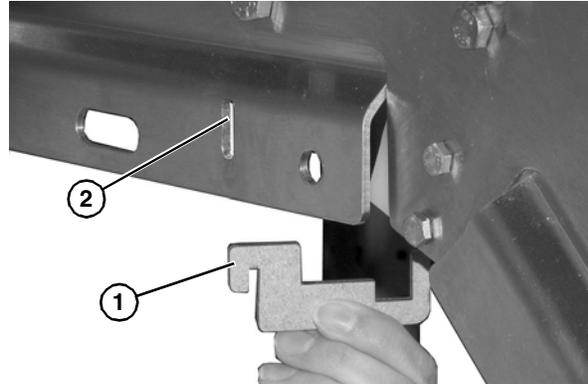

Figure 34
- Install belt return mounting bracket (**Figure 34, item 1**) into slotted frame hole (**Figure 34, item 2**).